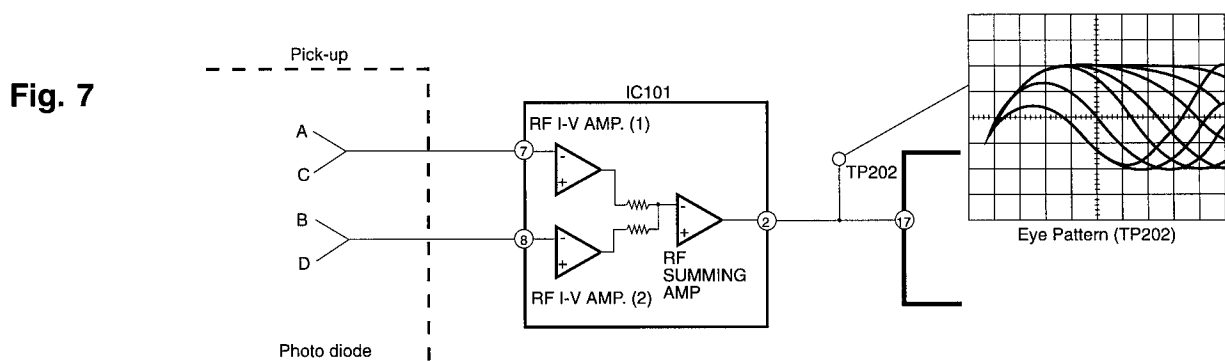

Fig. 7
The currents from photodiodes (a, b, c and d) are fed to IC101 through pins 7 and 8 and converted to voltage by RF I-V amplifiers (1) and (2) respectively there, added by the RF summing amplifier and output from pin 2 as a signal. As it is sent to pin 17 of IC201, it can be checked at the test point (TP202) provided on its way by means of the eye pattern check (as shown in Fig. 7).